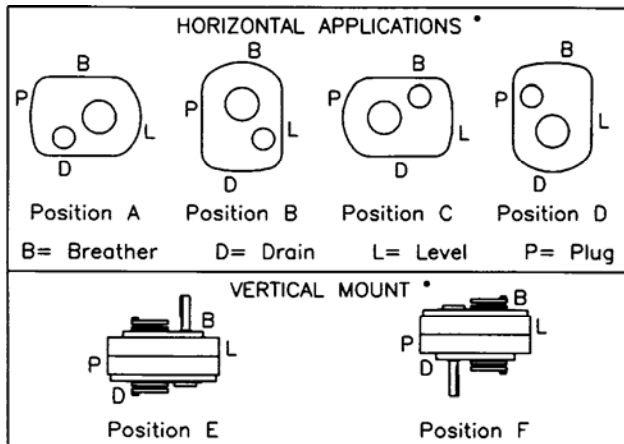

Fig. 1 - Mounting Positions
- Determine the running positions of the reducer. (See Fig. 1) Note that the reducer is supplied with either 4 or 7 plugs; 4 around the sides for horizontal installations and 1 on each face for vertical installations. These plugs must be arranged relative to the running positions as follows:
The running position of the reducer in a horizontal application is not limited to the four positions shown in Fig. 1. However, if running position is over 20° in position "B" & "D" or 5° in position "A" & "C", either way from sketches, the oil level plug cannot be used safely to check the oil level, unless during the checking, the torque arm is disconnected and the reducer is swung to within 20° for position "A" & "C" or 5° for position "B" & "D" of the positions shown in Fig. 1. Because of the many possible positions of the reducer, it may be necessary or desirable to make special adaptations using the lubrication filling holes furnished along with other standard pipe fittings, stand pipes and oil level gauges as required.
† Refer to Figure 1 on page 2 for mounting positions.
Note: If reducer position is to vary from those shown in figure 1, either more or less oil may be required. Consult Dodge. If output is less than 15 RPM, consult Dodge.